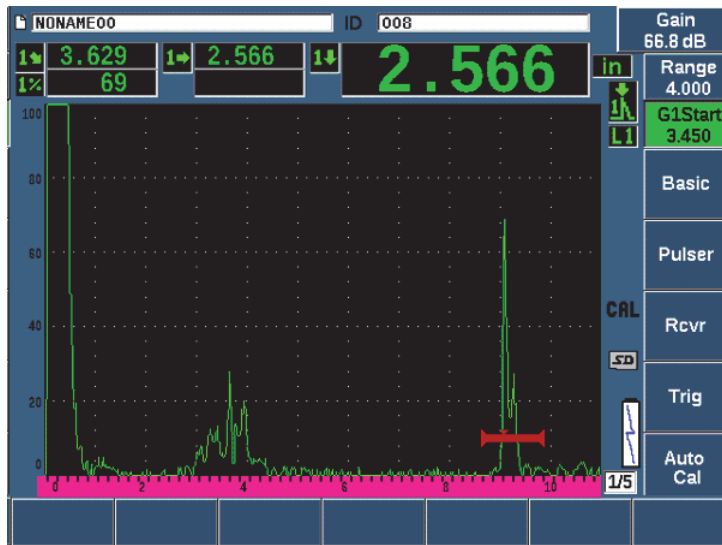

Figure 9-28 Example of a gated signal for velocity calibration
7. Adjust the value to match the known thickness of the gated indication (0.500 in. in this example), and then choose **Continue** to continue to the second calibration step (see Figure 9-28 on page 191).